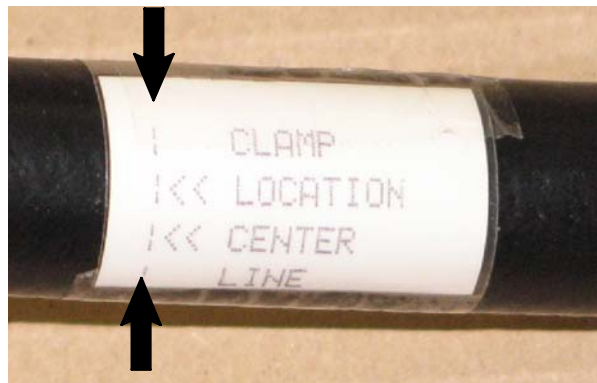
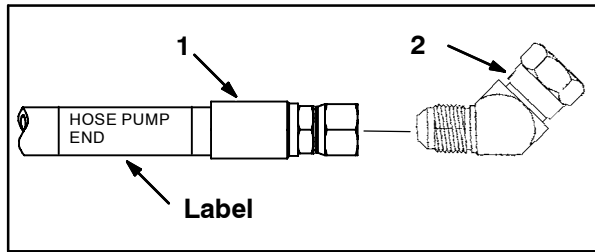
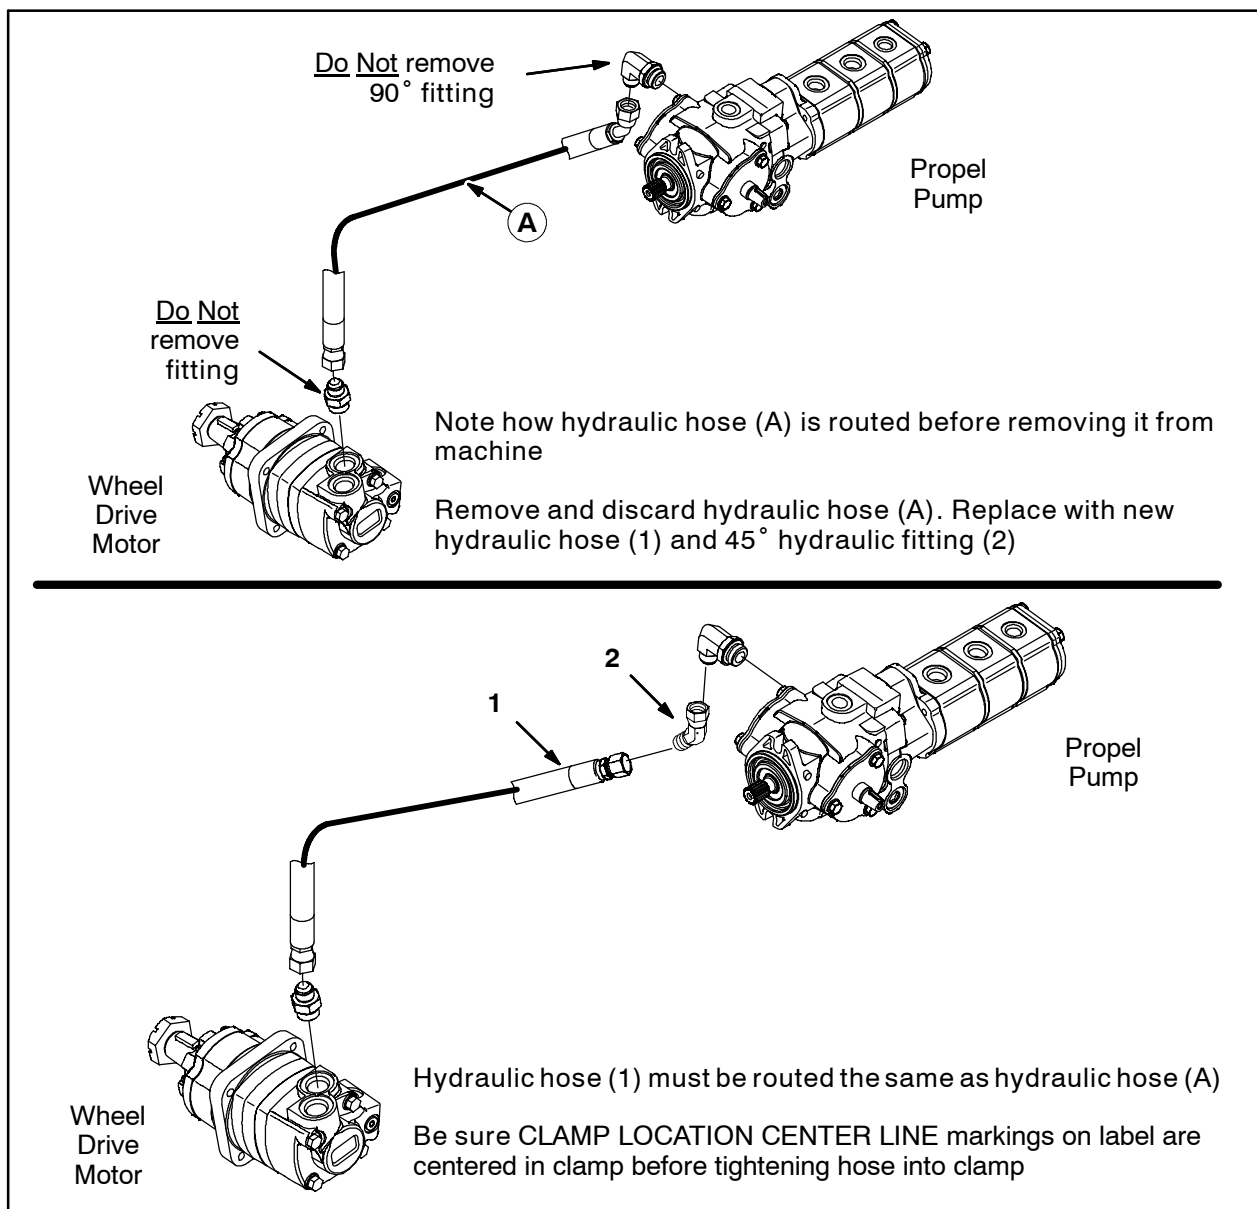

FIG. 4
FIG. 5
FIG. 6
9. Loosen the hose clamp, position the hydraulic hose (1) so the CLAMP LOCATION LINE markings on the label are centered in the hose clamp, and reinstall the hose clamp. Refer to Fig. 1, Fig. 2, and Fig. 4.
11. **Loosely** thread the 45° hydraulic fitting (2) onto the end of the hydraulic hose (1) labeled HOSE PUMP END. Refer to Fig. 5.
12. Install the 45° hydraulic fitting (2)/hydraulic hose (1) onto the 90° fitting where hydraulic hose (A) was located on the propel pump. Refer to Fig. 4 and Fig. 6.
13. Tighten the 45° hydraulic fitting (2) onto the hydraulic hose (1). Refer to Fig. 5 and Fig. 6.
15. Tighten the hydraulic hose (1) onto the fitting on the wheel drive motor. Refer to Fig. 6.
18. Start and test the machine. Observe to newly installed fitting (2) and hose (1) for leaks.
1. Locate hydraulic hose (A) and (B) connected to the propel pump and wheel drive motor. Note where/how both hydraulic hoses are routed. The new hydraulic hoses (1) must be routed the same as hydraulic hose (A) and (B). Refer to Fig. 6.